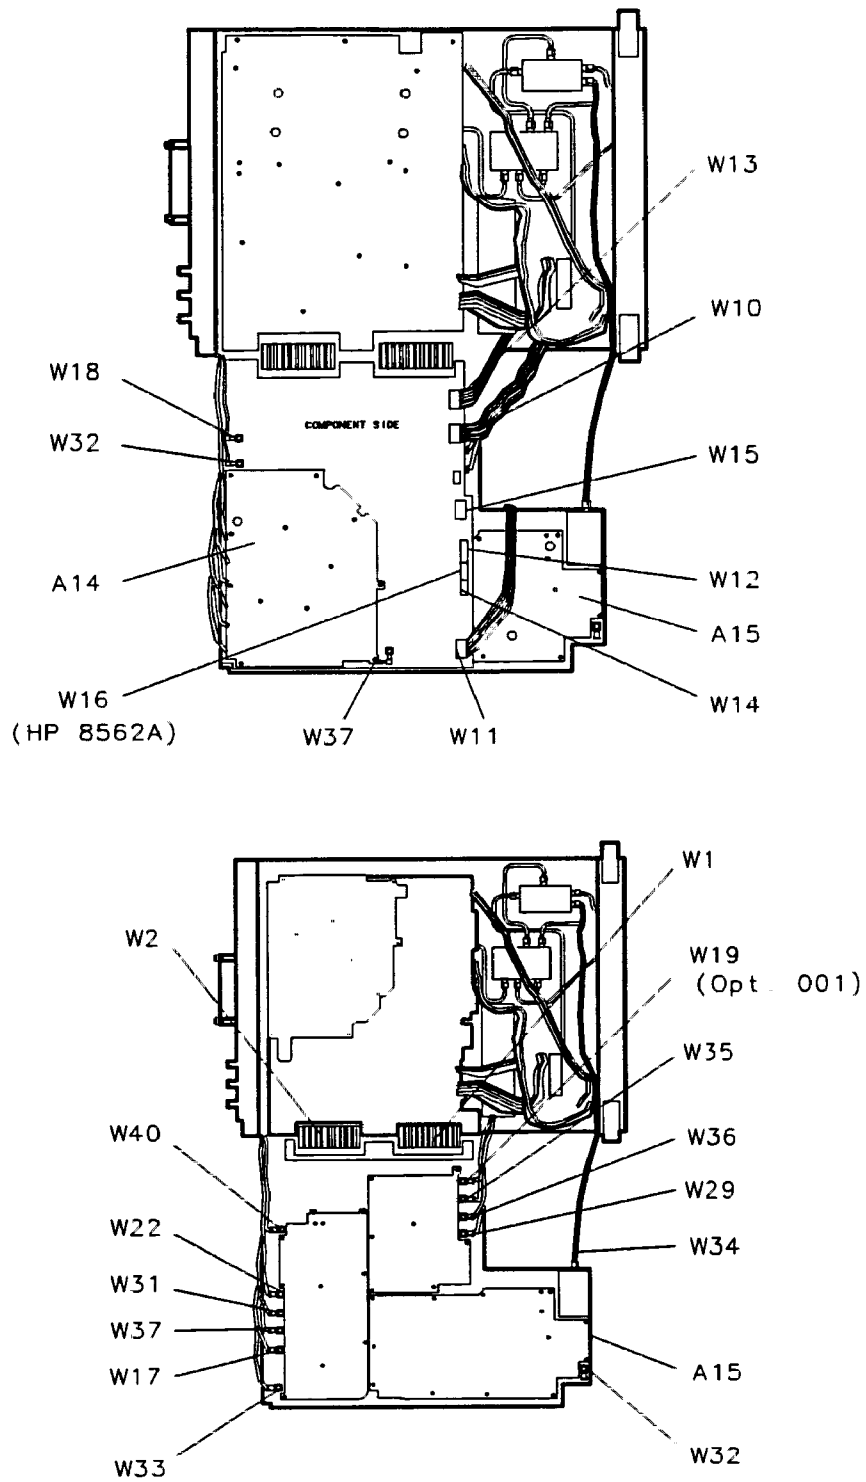

Figure 3-22. A14 and A15 Assembly Cables
2. Attach all cables to the assembly as illustrated in Figure 3-22.